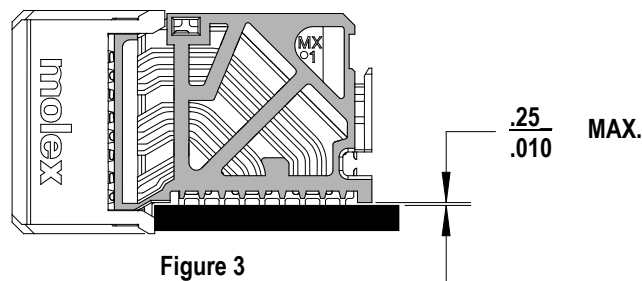

Figure 3
3. Using the application tool and an appropriate press, seat the Daughtercard module until there is less than 0.25mm (0.01 in) clearance between the bottom of the plastic housing and the surface of the PCB. See Figure 3.